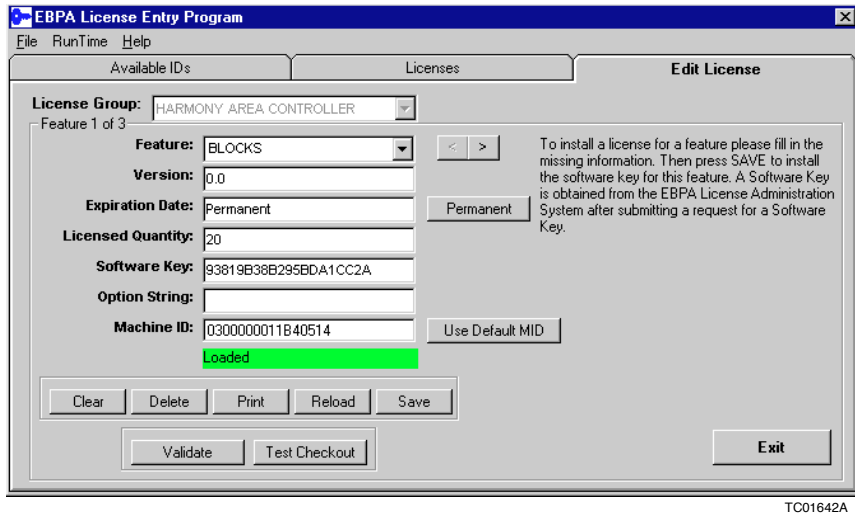

Figure B-5. Edit License Tab
- b. Click *Edit*. This opens the *Edit License* tab (Fig. B-5).